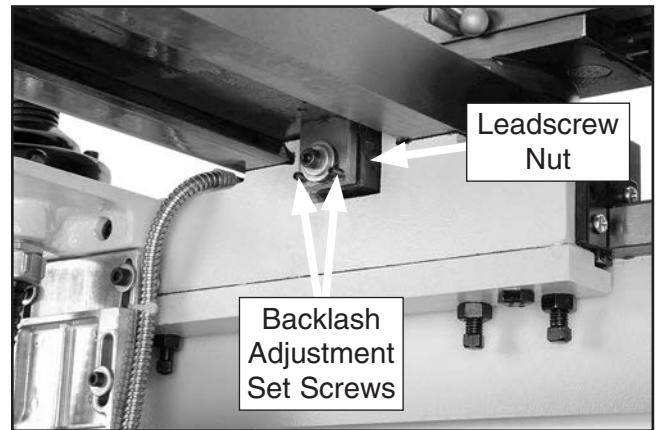

Figure 129. Leadscrew nut (viewed from back of machine).
3. Tighten backlash adjustment set screws shown in **Figure 129** in small increments.